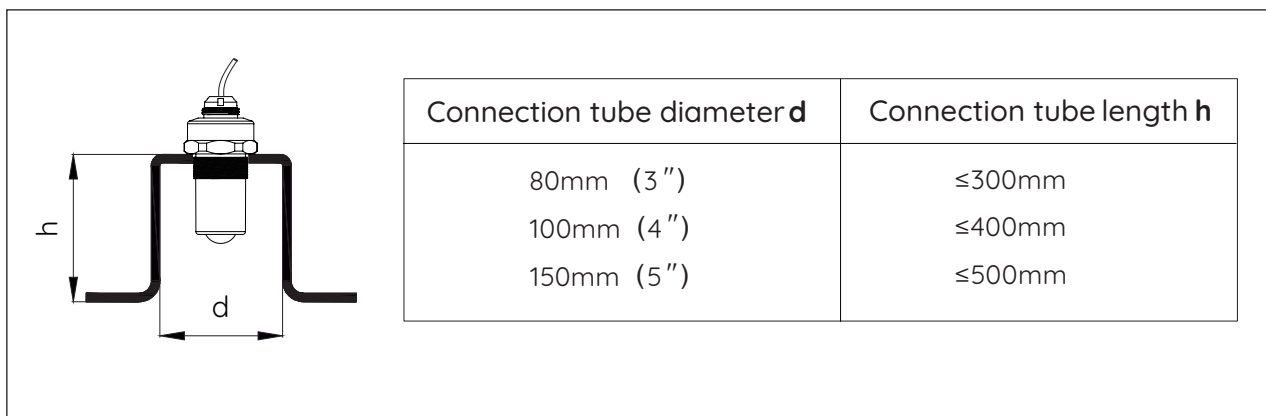

Figure 6
- ▶ If the length of the container connection is long, please refer to Figure 6. The longest installation short tube should be smaller than the size shown in Figure 6 as far as possible, and the end must be smoothed without burrs and other protrusions. If necessary, use the "**false echo storage**" function to eliminate the reflected signal at the end of the tanks nozzle, and you can also obtain better measurement results.